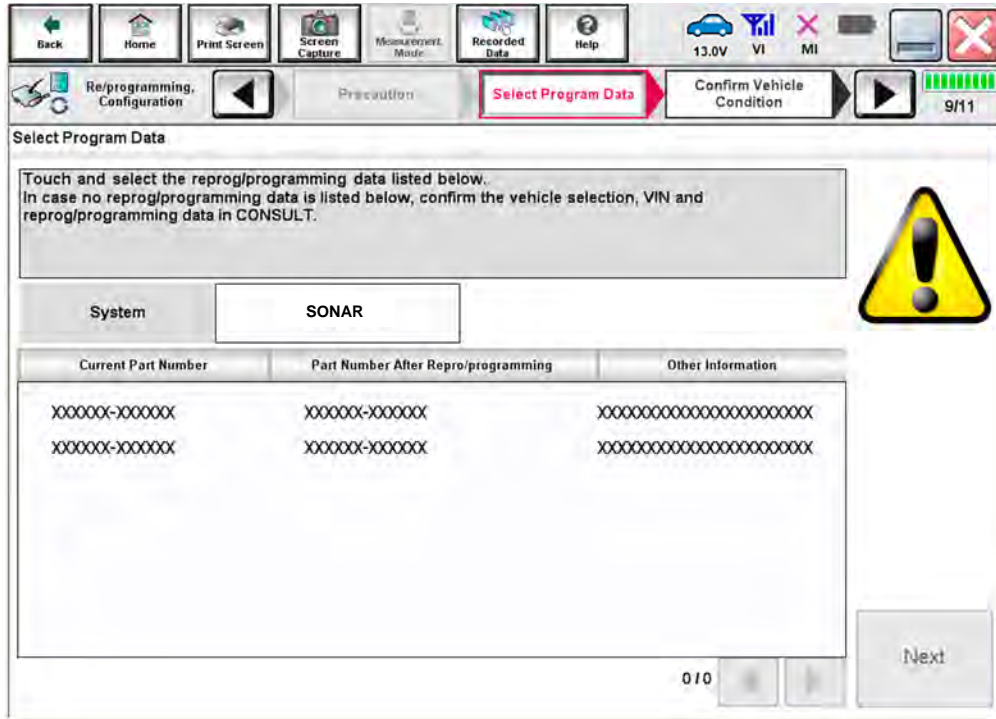

Figure 18
- If the screen in Figure 18 displays, and more than one new part number is available, select and use the reprogramming option that does **not** have the message “Caution! Use ONLY with NTBXX-XXX”.
- If the screen in Figure 18 displays and it is blank (no reprogramming listed), it means there is no reprogramming available for this vehicle. Close C-III plus and refer back to the ESM for further diagnosis.